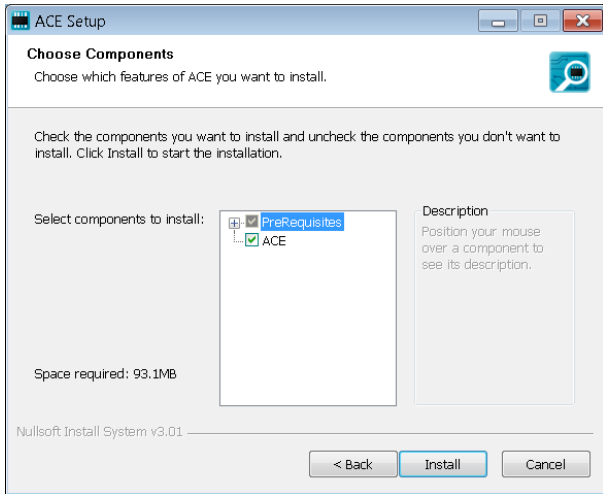

Figure 7. Choose Components
- The ACE software components to install are preselected (see Figure 7). Click **Install**.